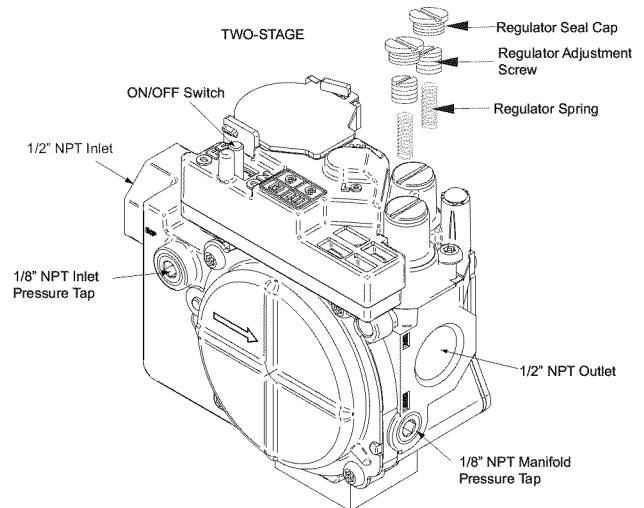

Fig. 28 - Two-Stage Gas valve
1. Refer to Fig. 28.
3. Remove caps that conceal adjustment screws for high-heat and low-heat stage gas valve regulators. (See Fig. 28.)
8. Turn high-heat stage adjusting screw clockwise (in) 13.5 full turns. This will increase the manifold pressure closer to the propane high-heat set point. (See Fig. 28.)
9. Turn low-heat stage adjusting screw clockwise (in) 9.5 full turns. This will increase the manifold pressure closer to the propane low-heat set point. (See Fig. 28.)
3. Attach manometer to manifold pressure tap on gas valve. (see Fig. 28.)